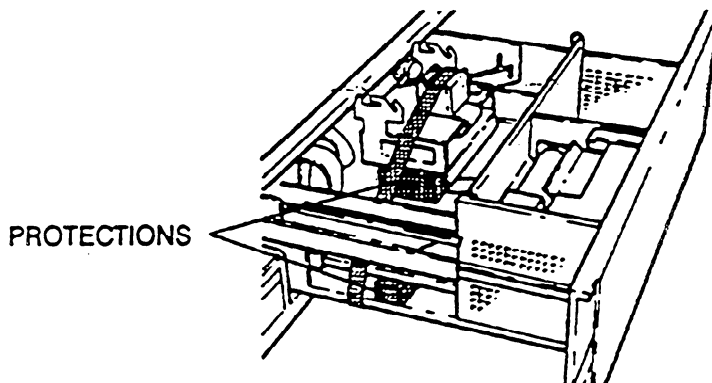

figure 7
15. Pull out DRAWER at feed end of ML 700 (see fig. 7).